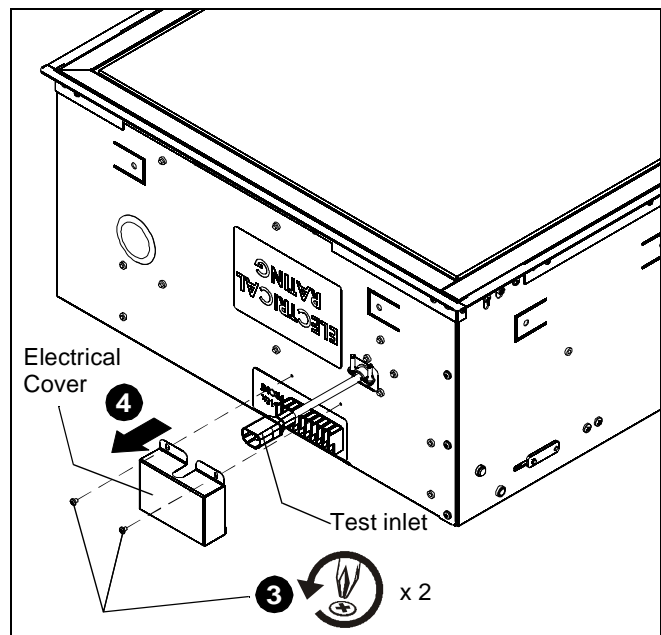

Figure 2
3. Remove and save two screws holding side electrical cover in place. (See Figure 2)
4. Remove electrical cover. (See Figure 2)